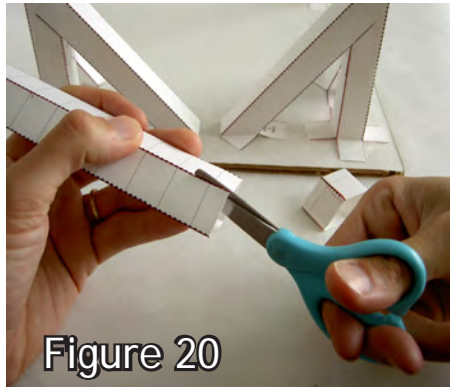
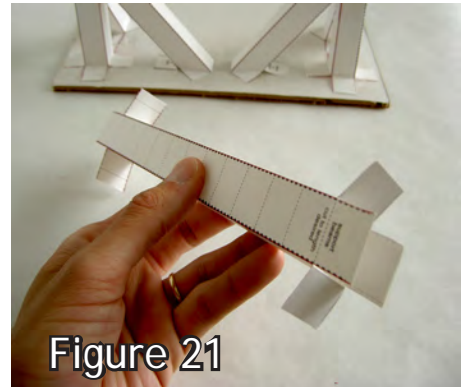

Figure 20
Figure 21
3. Cut along all four edges of the beam about 2 cm (3/4 inch). Use the thin dotted lines as a guide. (fig. 20) If the end of the beam is right on one of the dotted lines, cut as far as the next dotted line. Fold back two of the flaps at each end across from each other. (fig. 21)